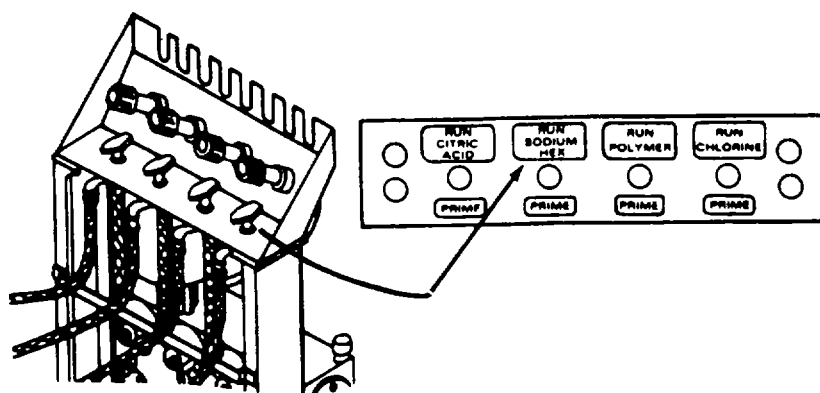

Figure 2-66. Nameplates
- q. Set SODIUM HEX valve to RUN position (fig. 2-66).
w. Set CHLORINE valve to RUN position (fig. 2-66).
(1) Covered?
(2) Full? Up to 3 inches from top?
(3) When brine tank is full, remove the canvas brine hose coming from the ROWPU and allow to drain on the ground.